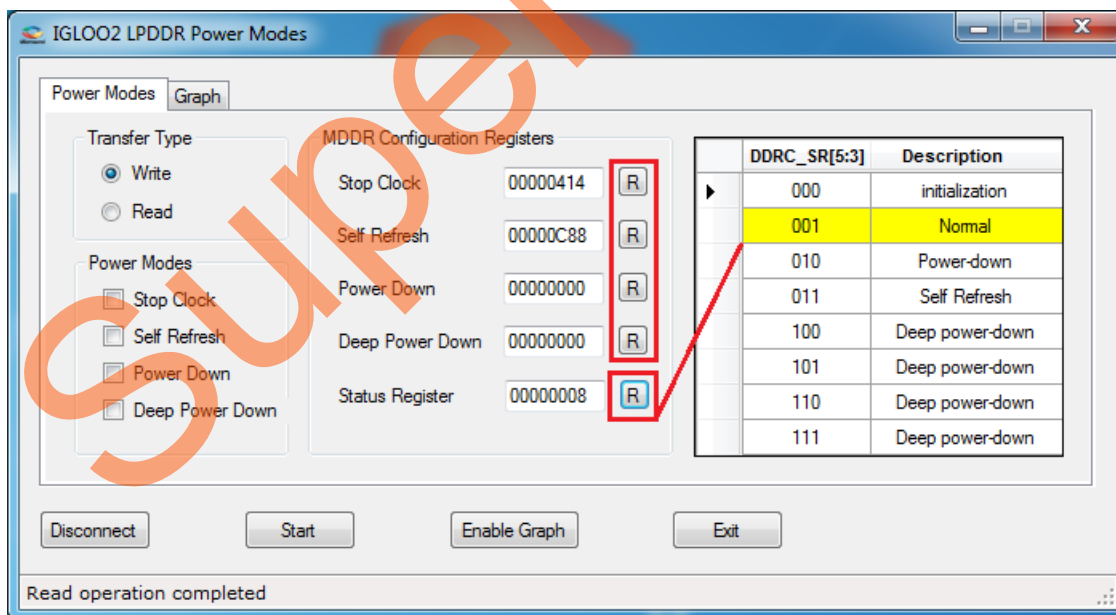

Figure 18 • MDDR Configuration Registers
- Click **R** one-by-one. The **MDDR Configuration Registers** content is displayed in the text boxes. The **Status Register** displays the current operational mode. Figure 18 shows the MDDR Configuration Registers.